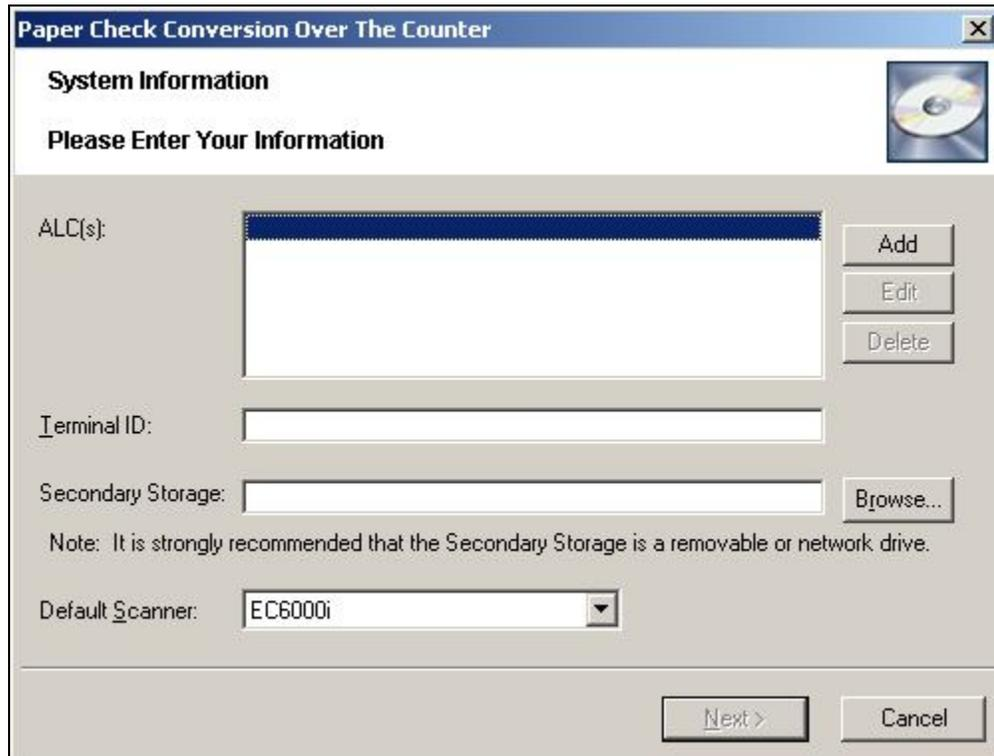

Figure 2.9
12. Once the restart is complete, the PCC OTC System Information screen appears. (Figure 2.9)